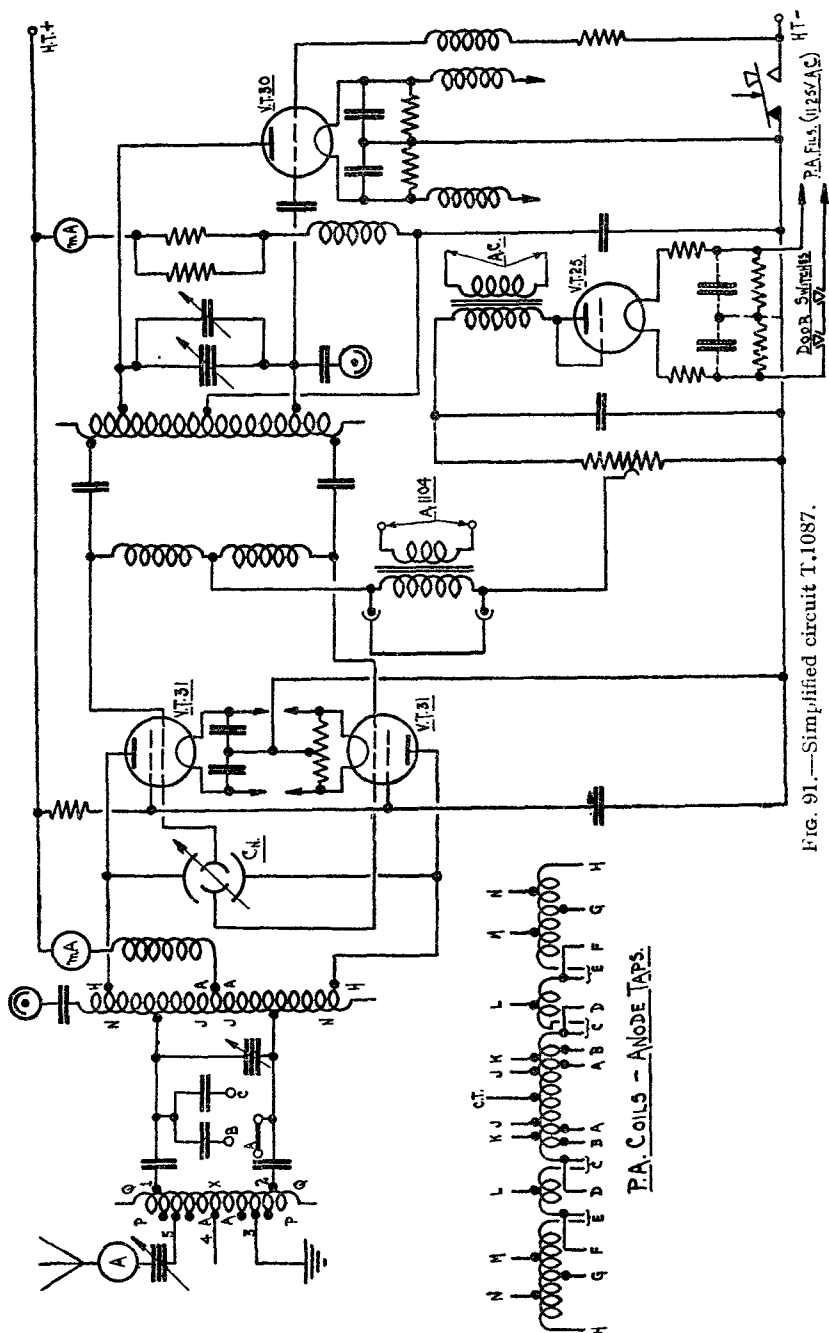

FIG. 91.—Simplified circuit T.1087.
6. **Circuit** (a simplified version in fig. 91).—Hartley M.O., tuned by variable condenser and three plug-in coils. M.O. capacity-coupled to a neutralised tetrode P.A. using two V.T.31's in push-pull. The P.A. is tuned by variable condenser and five tapped inductances, permanently fitted in the transmitter. The P.A. is capacity-coupled to the aerial matching transformer, which is tapped at every turn to work into aerial loads between 20 and 600 ohms.